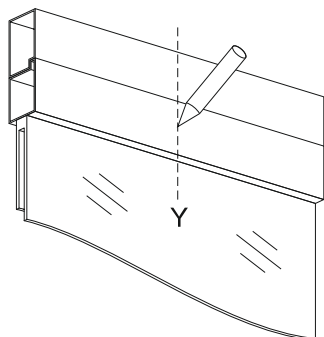

Fig. 22
- 3) **Fig. 22-** Apply the template (**Ref. 1**) on the window frame aligning it with the previously drawn centre line "Y";